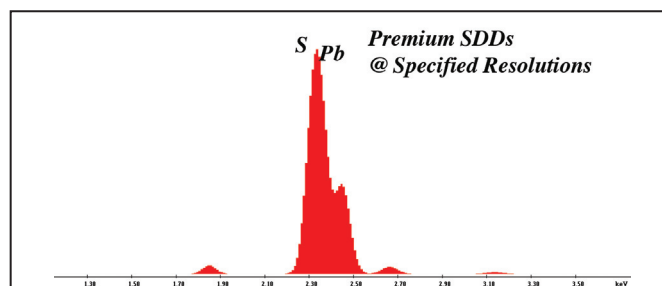

Figure 4. Octane at 121 eV.
Achieving the benefits of high speed collection and throughput for microanalysis can be realized in several different types of data acquisition. At its most basic, a high quality, low resolution spectrum will contain peaks that are separated, or resolved, from other peaks within the spectra. This is particularly challenging when the spectrum contains peaks that are overlapping or nearly overlapping. One of the most common spectral overlaps occurs with a lead (PbM) and sulfur (SK) overlap. While higher energy lead (PbL) lines can be used to determine the presence of lead, it is more challenging to determine if sulfur is present in addition. In a high quality spectrum at 121 eV, the separation of these peaks is discernible (Figure 4). Even when the resolution degrades to 141 eV (within 90% resolution stability of a 129 eV spectrum), the peaks are slightly more blended, but a